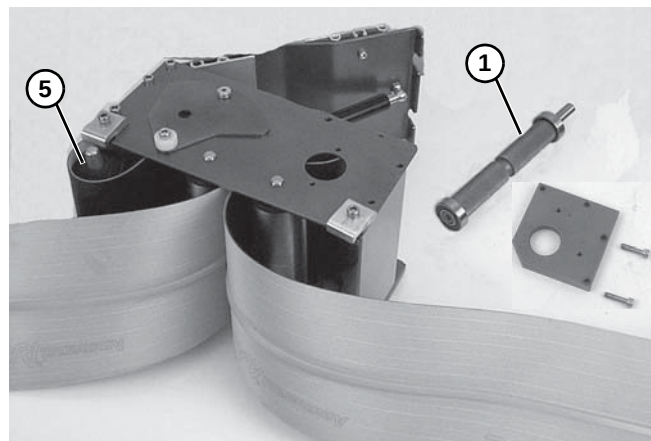

Figure 29
- For 5" (127 mm) or wider conveyor, depress both sides of spring-loaded shaft and remove pulley (**Figure 29, item 5**).